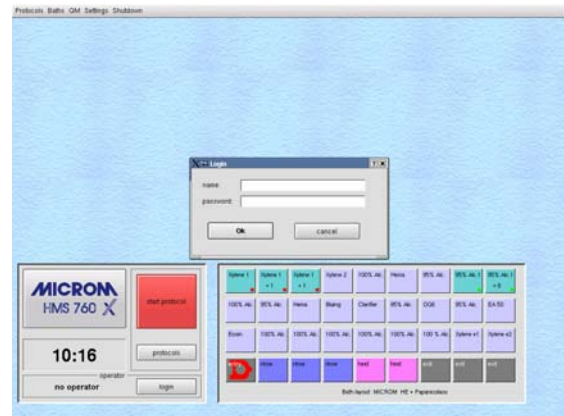

Fig. 7
The instrument is then in the standby mode and can be started again via the start button (fig. 7) of the notebook.
- Turn on the notebook via the start button (fig. 7) to start the instrument.
- For a restart, press the start button (fig. 7) of the notebook.
Turning on: Activate the start button (fig. 7) on the notebook.